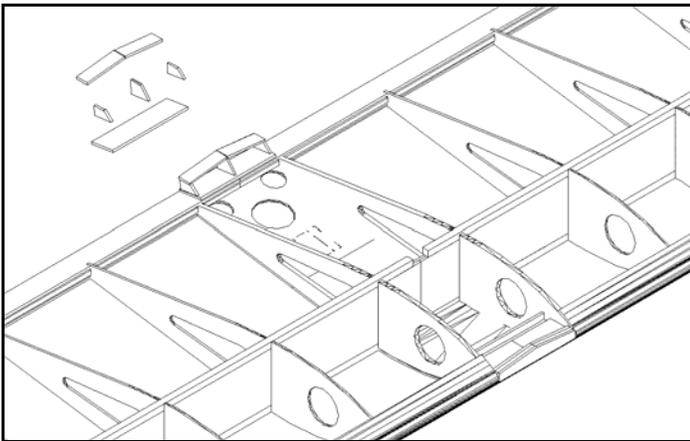

Figure 18
18. Remove Parts P3, P4, P6 and P8 and assemble rear wing saddle. (Fig. 18) Create a $\frac{1}{2}$ " notch in the bottom spars for the Slow Stick fuselage to fit. (Also Fig. 18) Main wing assembly is now complete! You may now sand as desired and cover with light covering of choice. When covering, be sure to leave the bottom area between center ribs open.